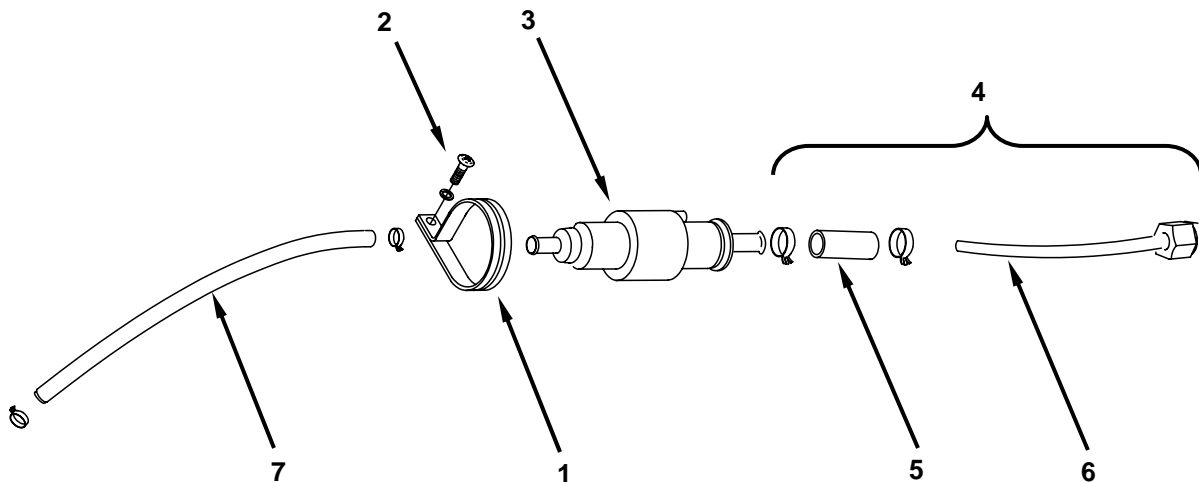

Figure 3. Replace the Fuel Pump and Fuel Pump Hoses – Disassemble Hoses.
8. Remove the fuel pump bracket (**Figure 3, Item 1**) and screw (**Figure 3, Item 2**) from the fuel pump (**Figure 3, Item 3**) and set aside.
9. Squeeze the hose clamp on the outlet hose (**Figure 3, Item 4**) of the fuel pump (**Figure 3, Item 3**) and pull the outlet hose off of the barbed fitting on the fuel pump. Drain any fuel onto a petroleum absorbent mat or tray.
10. Use pliers to release the hose clamp at the connection of the black hose (**Figure 3, Item 5**) and the clear tube (**Figure 3, Item 6**) on the outlet hose (**Figure 3, Item 4**), and separate the two hoses.
11. While working on petroleum absorbent material, squeeze the hose clamp and remove the fuel line (**Figure 3, Item 7**) leading to the inlet end of the fuel pump (**Figure 3, Item 3**).
13. Install the replacement fuel line (**Figure 3, Item 7**) to the inlet end of the fuel pump (**Figure 3, Item 3**). Ensure the hose is secure on the barbed fitting.
14. Assemble the outlet hose (**Figure 3, Item 4**) by inserting the clear tubing (**Figure 3, Item 6**) into the black hose (**Figure 3, Item 5**) approximately $\frac{1}{2}$ inch (13 mm), and retain in place with a hose clamp.
15. Install the outlet hose (**Figure 3, Item 4**) at the outlet end of the fuel pump (**Figure 3, Item 3**). Ensure the hose is secure on the barbed fitting.
16. Slide the fuel pump bracket (**Figure 3, Item 1**) over the fuel pump.